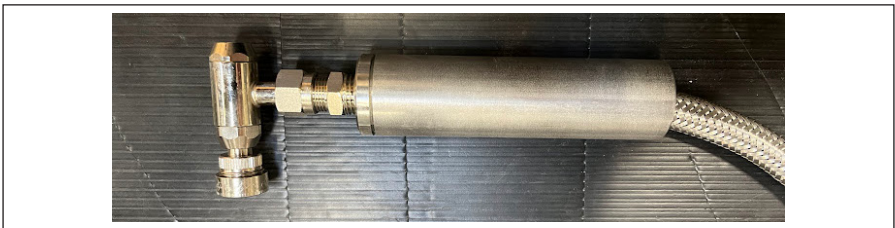

Figure 2: Pump user instructions
Figure 2 illustrates the handle of the pump.
Press the head of the pump handle down on the valve. Keep pressing down. Press the foot pedal (Figure 2, item 4) down repeatedly and air will fill the bicycle tire. Keep pumping the foot pedal until the desired pressure is reached.